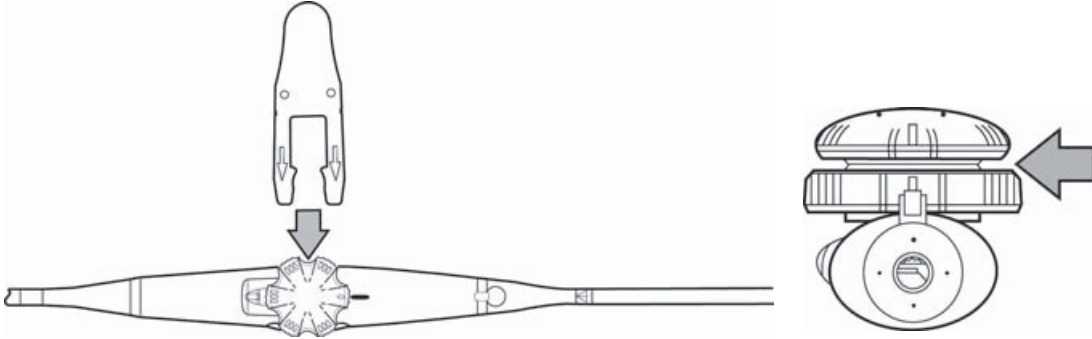

Figure 5-9 Insertion of the puncture test tool
- 1 Insert the puncture test tool under the scan plane controller as shown in **Figure 5-9**.